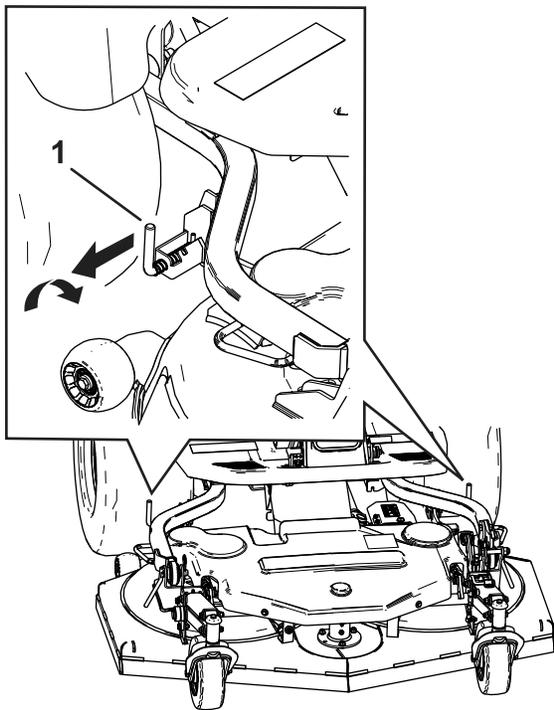

Figure 87
11. Confirm and ensure that the rear latch pins are engaged (Figure 87).
3. Before lowering the cutting unit, pull and rotate the rear link pins at both sides of the cutting unit (Figure 87).